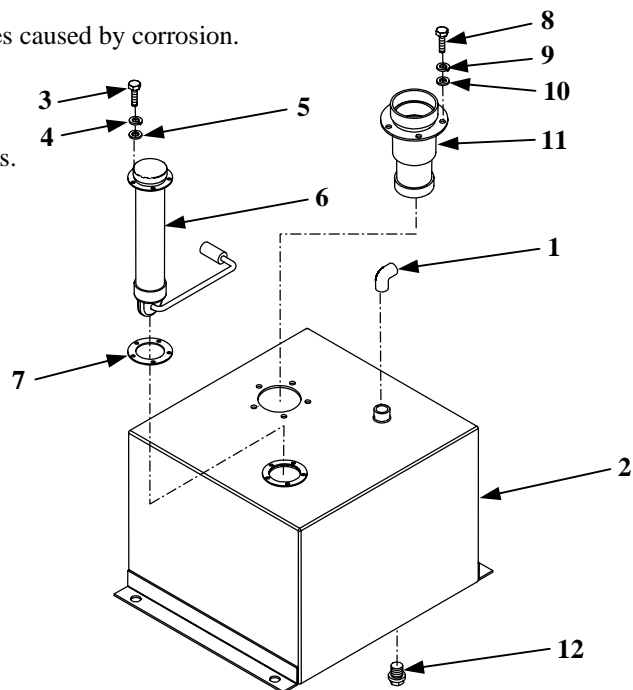

Figure 2. Fuel Tank Disassembly
1. Remove elbow (1, Figure 2) from fuel tank (2).
2. Remove five screws (3), lock washers (4) and flat washers (5) from fuel gauge (6). Discard lock washers.
3. Carefully remove fuel gauge (6) and gasket (7) from fuel tank (2).
4. Remove six screws (8), lock washers (9), flat washers (10) and filler neck (11). Discard lock washers.
5. Remove drain plug (12).
1. Inspect fuel tank (2, Figure 2) for cracks, punctures, and pinholes caused by corrosion.
2. Inspect elbow (1) and plug (12) for stripped threads or cracks.
3. Inspect fuel gauge (6) for cracks, deformed, or worn components.